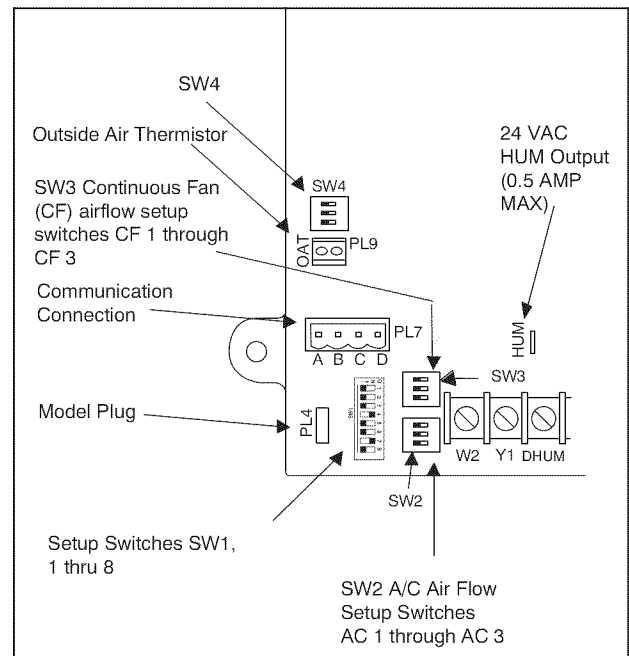

Fig. 12 - Furnace Control
5. Turn Setup Switch SW1-2 on furnace control ON (see Fig. 12).